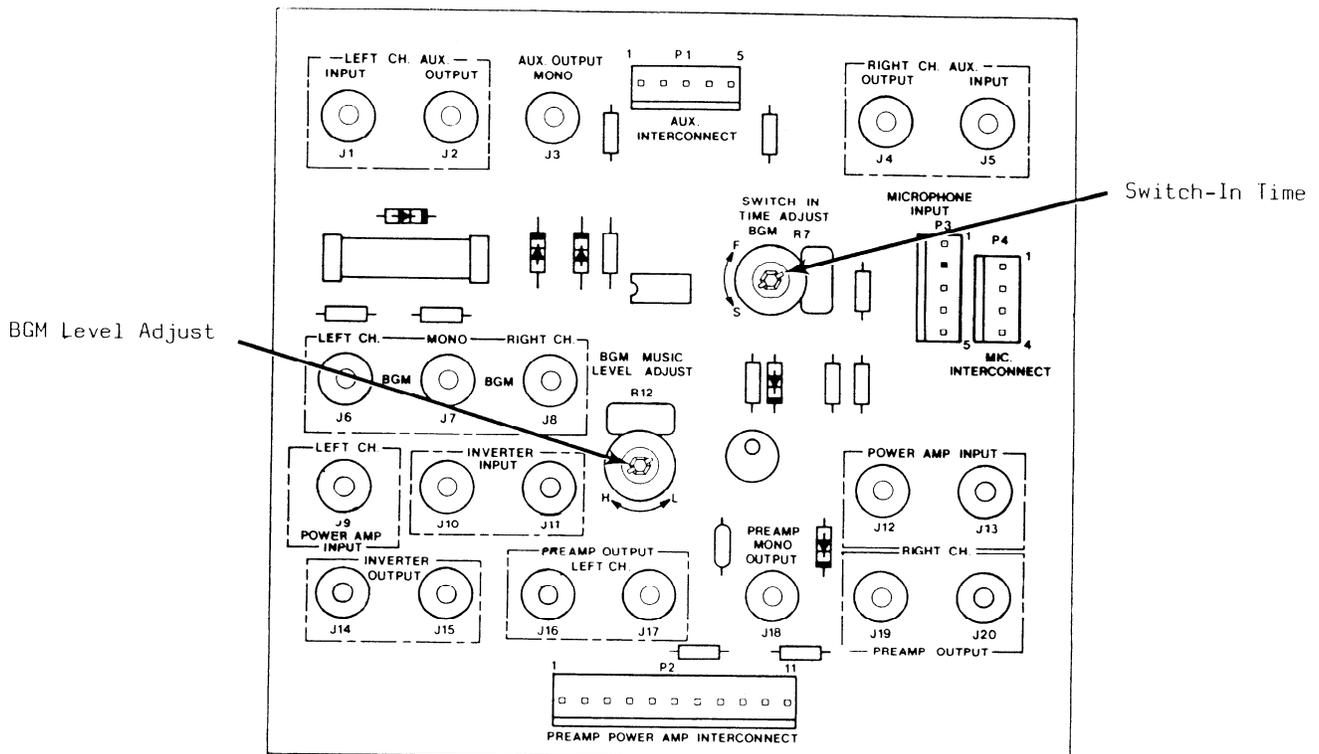

Figure 3. Adjustment Locations
1. Make another selection, while the song is playing, turn the SWITCH-IN TIME ADJUST (see figure 3) fully clockwise. (it should already be in this position if you have just finished the Background music adjustment) Cancel the record. Approximately 10 seconds after the selection finishes, the background music will begin playing.